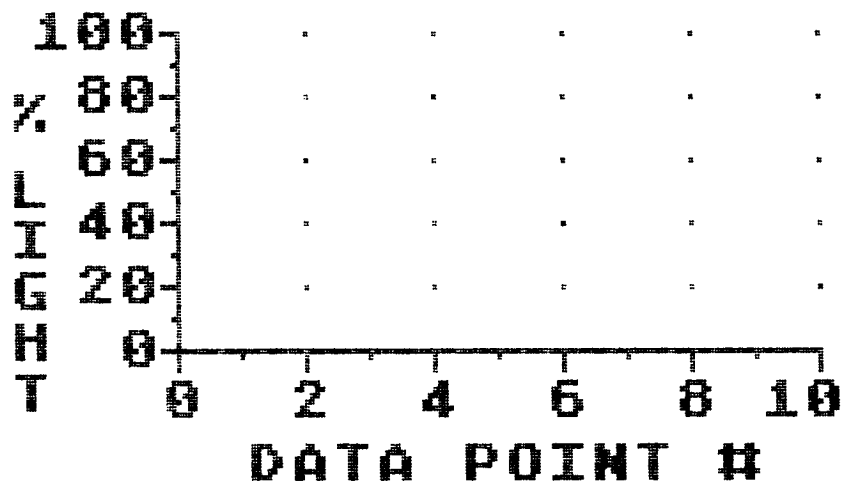

Figure 2.2-2. Graph of %LIGHT vs. DATA POINT #
7. Sketch the data points in the graph shown in Figure 2.2-2